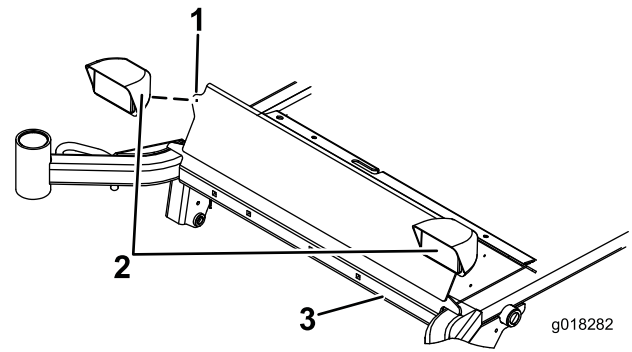

Figure 5
1. Locate the pilot hole in each mounting tab on the front of the carrier frame (Figure 5).
3. Secure a headlight to each tab using a carriage bolt and a locknut (5/16–18). Discard the lock washers and nuts included with the lights (Figure 5).